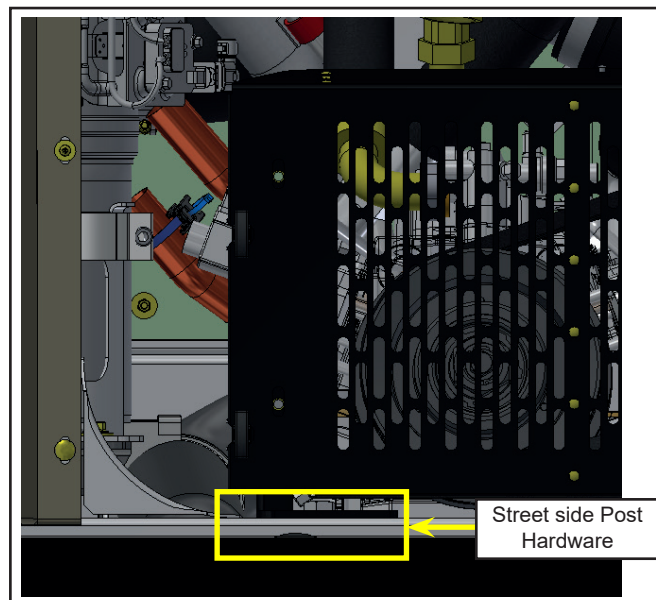

Figure 16 - Installation of Street Side Post Hardware
- 1.19. Install the street side post hardware from interior side (see figure 16).